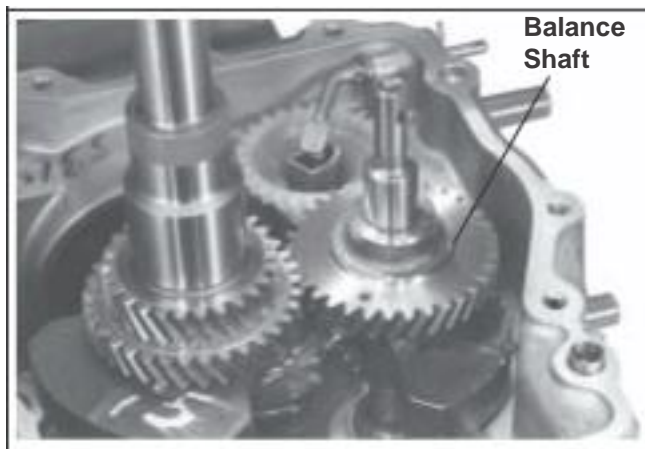

Figure 9-49. Removing Balance Shaft.
1. Remove the balance shaft from the crankcase. See Figure 9-49.